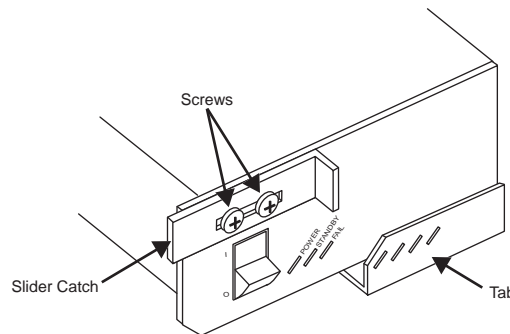

Figure 18.11 Power Supply Protective Cage
4. Loosen the **2** screws holding the slider catch in place until the catch moves freely (**Figure 18.11**).